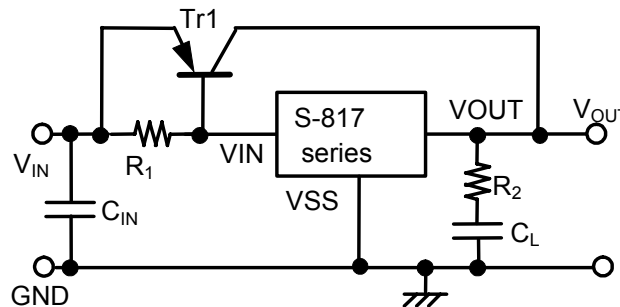

Figure 14
As shown in **Figure 14**, the output current can be boosted by externally attaching a PNP transistor. The base current of the PNP transistor is controlled so that output voltage (V_{OUT}) goes the voltage specified in the S-817 Series when base-emitter voltage (V_{BE}) necessary to turn on the PNP transistor is obtained between input voltage (V_{IN}) and S-817 Series power source pin (VIN).
- To improve transient response characteristics of the output current boosting circuit shown in **Figure 14**, check that no problem occurs due to output fluctuation at powering on or due to power or load fluctuation under normal operating conditions.